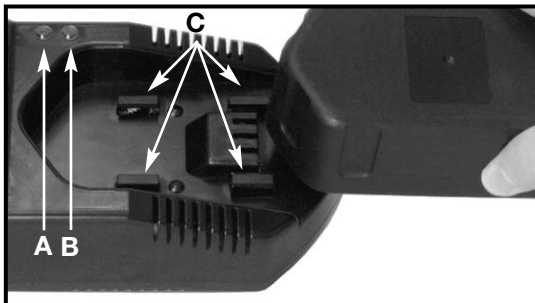
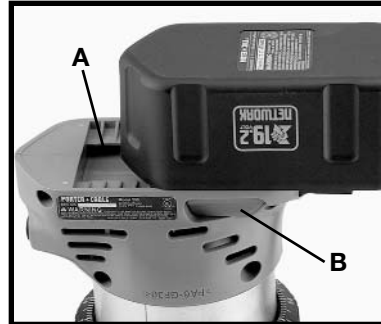

Fig. 1
Fig. 2
Position the battery pack on charger, align the rails on the battery pack (A) Fig. 2 with the four tabs (C) Fig. 1 on the charger. Slide the battery forward on charger until it stops.
The green light (A) Fig. 1 should begin to flash rapidly indicating that the battery pack is receiving a “fast charge”. (If the green light does not flash or if the red light (B) illuminates, see **DIAGNOSTICS**). After approximately one hour, the “Fast Charge” indicator light should glow continually, indicating that the battery pack is fully charged and that the charger is now in a “Maintenance Charge” mode. The battery pack can be left on “Maintenance Charge” until you are ready to use it.